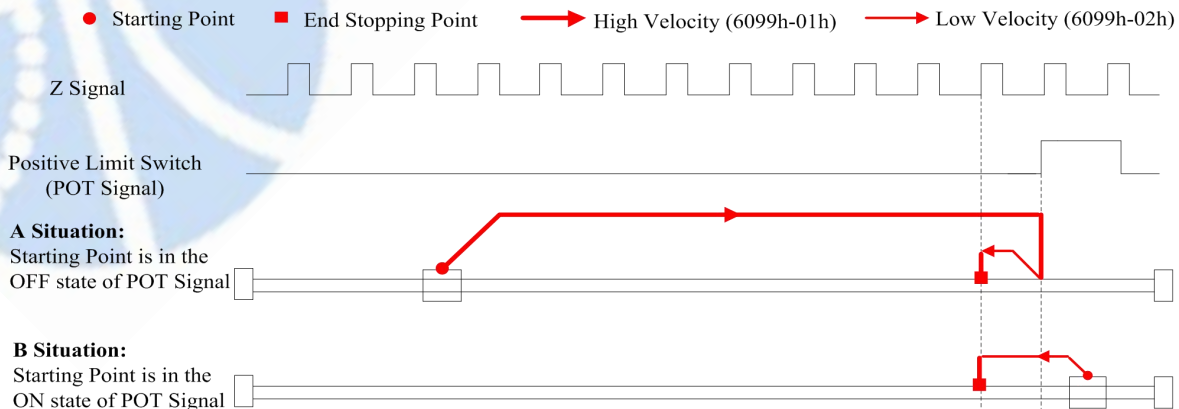

Figure 7-2: Method 2
- If the motor starting point is not at the Positive Limit position like Situation A, it will move toward positive direction at Fast Homing Velocity (6099-01h) until the Positive Limit goes ON, then the motor stops quickly and starts to move toward negative direction at Low Homing Velocity (6099-02h). The motion stops at the first effective Z signal after leaving the Positive Limit Switch, as shown in Figure 7-2.